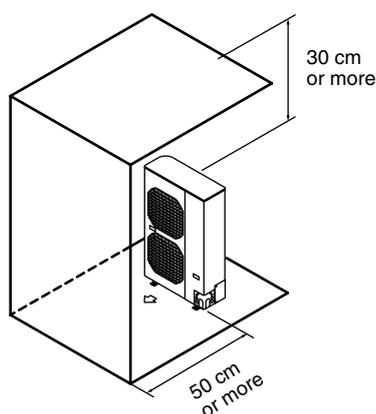

Fig. 2-7
- (3) Obstructions on the front side and above the unit (Left side, right side and rear side are opened). (Fig. 2-7)